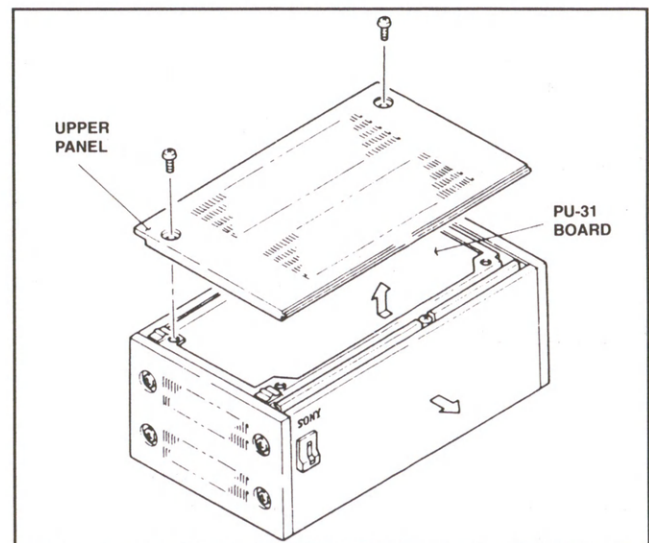

Figure 1
1. Turn power off, remove the two screws on the upper panel, then remove the upper panel. (See Figure 1.)